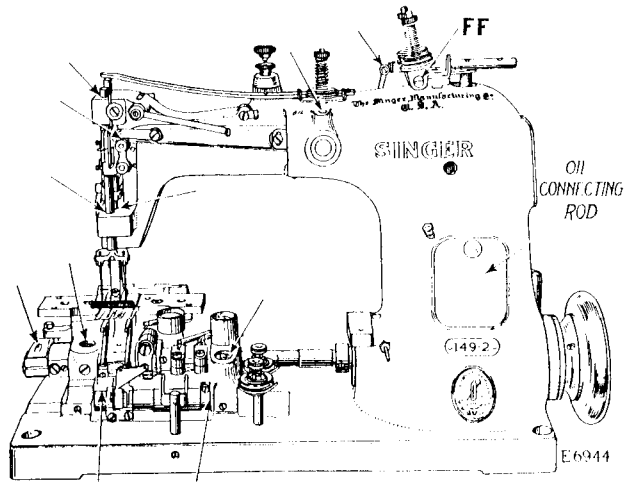
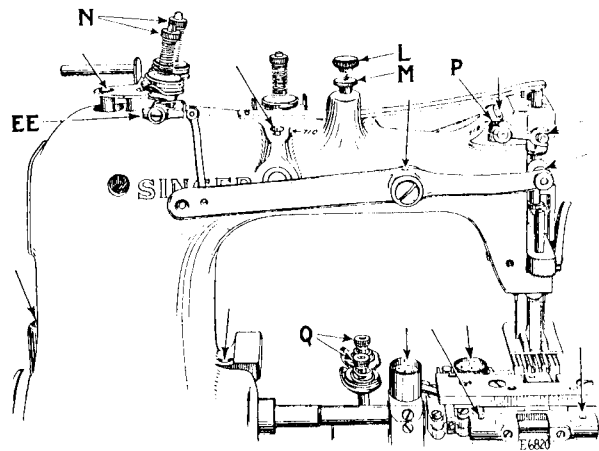
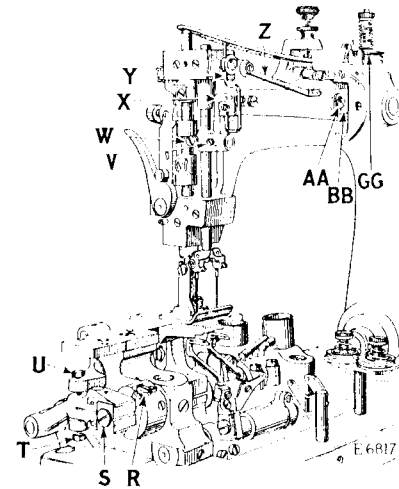

FIG. 2. OILING POINTS AT THE FRONT OF THE MACHINE
FIG. 3. OILING POINTS AT THE BACK OF THE MACHINE
FIG. 6. ADJUSTMENTS ON THE MACHINE
Before starting the machine, fill all oil reservoirs and oil the connecting rod and all parts which are in movable contact, also all places designated by arrows in Figs. 2 and 3. When the machine is in continuous use, it should be thoroughly oiled at least twice each day.
The length of stitch is regulated by the large screw (R, Fig. 6) in the feed eccentric near the left end of the rotary shaft. To lengthen the stitch, loosen the lock screw (S, Fig. 6) at the extreme left end of the rotary shaft and turn the adjusting screw (R) over to the right. To shorten the stitch, turn the adjusting screw (R) over to the left. When the desired length of stitch is obtained, securely tighten the lock screw (S).
The pressure of the presser foot on the material is regulated by means of the thumb screw (L, Fig. 3) at the top of the machine. To increase the pressure, loosen the lock nut (M, Fig. 3) and turn the thumb screw (L) downwardly. To decrease the pressure, turn the thumb screw upwardly. When the desired amount of pressure is obtained, securely tighten the lock nut (M).
The tension on the needle threads is regulated by the thumb nuts (N, Fig. 3) above the tension discs at the top of the machine. To increase the tension, turn these thumb nuts over to the right. To decrease the tension, turn these thumb nuts over to the left. The needle threads require sufficient tension to set the stitch properly in the goods.
The tension on the looper threads is regulated by the tension thumb nuts (Q, Fig. 3) at the base of the machine. The tension on the looper threads should be very light.
At this position, the eyes of the needles should be about $\frac{1}{8}$ inch below the points of the loopers so that the eyes of the needles and eyes of the loopers will be in perfect alignment when they pass each other on the loop taking stroke. In case the needle bar is not set in the correct position, loosen the set screw (W, Fig. 6) in the needle bar connecting stud and move the needle bar up or down as required, then securely tighten the set screw (W).
The needle thread take-up (X, Fig. 6) is usually set so that the bottom of the take-up is flush with the bottom of its holder. The take-up can be raised or lowered after loosening the screw (V, Fig. 6).
The slack thread regulator (Z, Fig. 6) should be set so that when the loopers are shedding the needle loops on their backward stroke, the thread will not snap off the points of the loopers nor be drawn through the tension discs. To set the slack thread regulator, it is best to start with the regulator in a low position and then continue raising the regulator until the loopers back out of the needle loops with a little tension on the thread. To make this adjustment, loosen the clamping screw (P, Fig. 3) and raise or lower the slack thread regulator (Z), as may be required, then securely tighten the clamping screw (P).
The auxiliary thread take-up (Y, Fig. 6) at the front of the machine should be set so that it takes up the slack of the needle threads after the loopers have shed the needle loops and as the needle bar finishes its downward stroke and the stitch is set. To change the position of the auxiliary thread take-up, loosen the screw which holds it in position and raise or lower it, as required, then tighten the screw.
The automatic thread nipper (GG, Fig. 6) should be timed to release the thread during the loop taking stroke of the loopers and before the loopers tighten the needle loops. To adjust the automatic thread nipper (GG) to release the thread earlier, loosen the screw (AA, Fig. 6) and raise the nipper releasing cam (BB, Fig. 6). To release the thread later, lower the nipper cam (BB). When the automatic thread nipper is correctly timed, securely tighten the screw (AA).
The function of the needle thread tension releaser is to release the tension on the needle threads when the presser foot is raised. In case the tension releaser does not properly release the threads, loosen the set screw (EE, Fig. 3) and turn the shaft (FF, Fig. 2) over to the left until the correct adjustment is obtained, then securely tighten the set screw (EE).
To centre the feed dog in the slots in the throat plate, loosen the upper adjusting screw (U, Fig. 6) and tighten the lower adjusting screw (T, Fig. 6), or vice versa, as may be required.